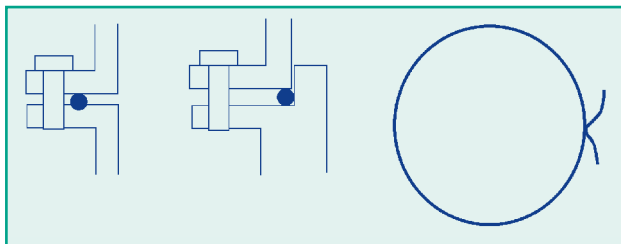

Figure 2 Indium seals; face seal, corner seal and loop showing ends of wire crossed
Oxford Instruments Superconductivity uses two main types of indium seal as illustrated in Figure 2. They use 1 mm diameter indium wire retained either in a groove (by a flat surface) or in a corner (between 2 flanges).
- Lay the new piece of indium wire in the groove or around the male part (corner seal) and overlap the ends of the wire as shown in Figure 2.